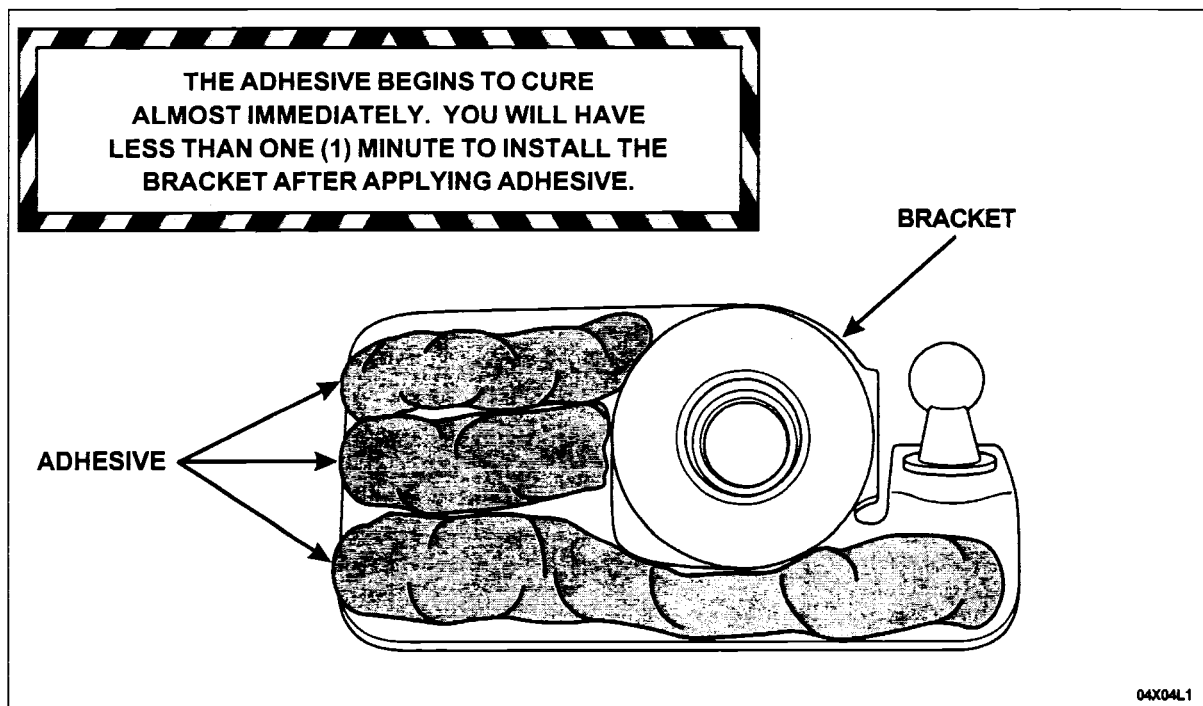

FIGURE 12
After the primer has dried for fifteen (15) minutes, apply three (3) **large** beads (9-10 mm in diameter) of adhesive to the backside of the **new** left-side bracket. See Figure 12.
14. Apply three (3) **large** beads (9-10 mm in diameter) of adhesive to the backside of the **new** right-side bracket. See Figure 12.